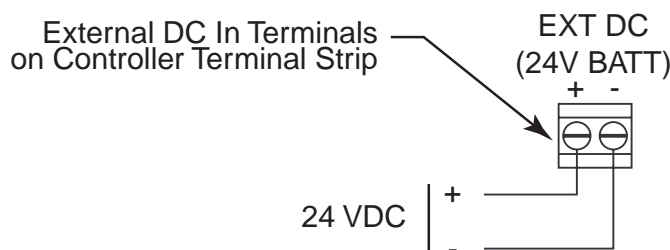

Figure 5: DC Power Wiring
6. Connect the DC wires to the controller terminal strip as shown in Figure 5.
The battery charging circuit is designed to charge lead acid type batteries. If AC power is used as primary power and a backup battery is connected to the Beacon 110 's EXT DC/24V BATT terminals as shown in Figure 5, the battery charging feature will charge the battery if it is depleted and keep it charged with a charge current of approximately 100 mA.